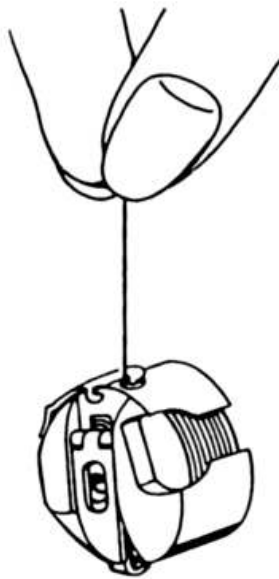

Fig. 17
- Upon sharp upward movements of the hand, the thread must run off gradually (fig. 17).